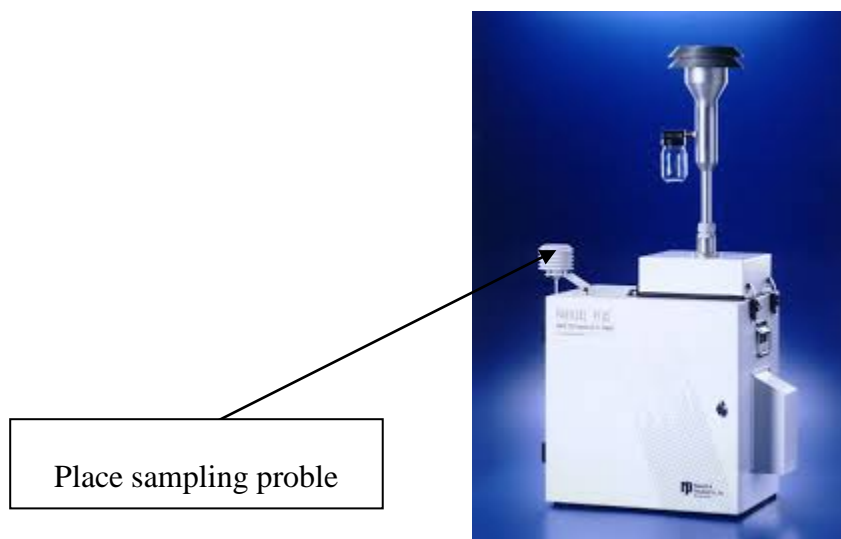

Figure 8: Ambient Temperature Sensor
6.3.3.2.1 Determine the current temperature (°C) at the ambient temperature sensor using an external thermometer [$^{\circ}\text{C} = 5/9 \times (^{\circ}\text{F} - 32)$]. Insert probe into the external radiation shield (see Figure 8).